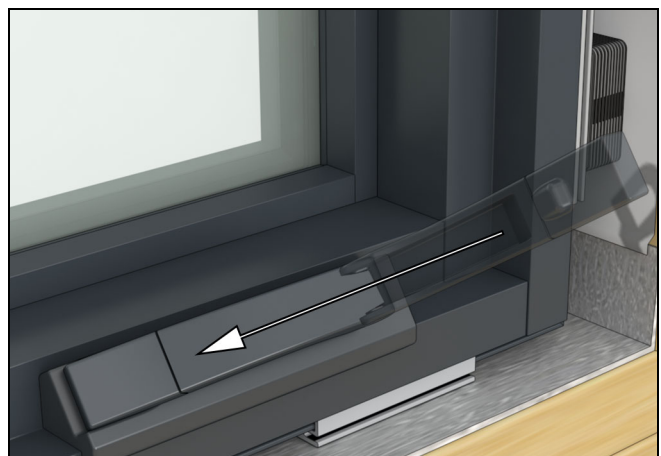

Figure 55
3. Nest the handle in the recess. See Figure 55.